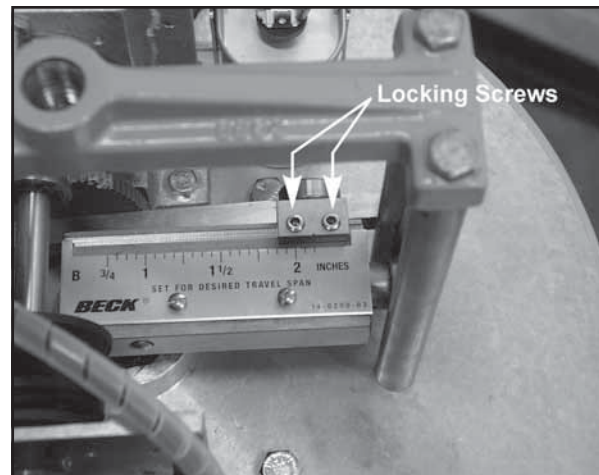

Figure 7
Adjustment of the total drive stroke within the factory-set travel range is easily accomplished by the use of the Beck Calibar, Figure 7. The switches and feedback device are simultaneously adjusted to maintain full input span when the Calibar setting is changed. For stroke lengths longer than the factory-set travel limits, consult the factory. Adjust the drive stroke as follows:
3. Loosen the two locking screws on the Calibar block with an 1/8" hex wrench (See Figure 7, this page).